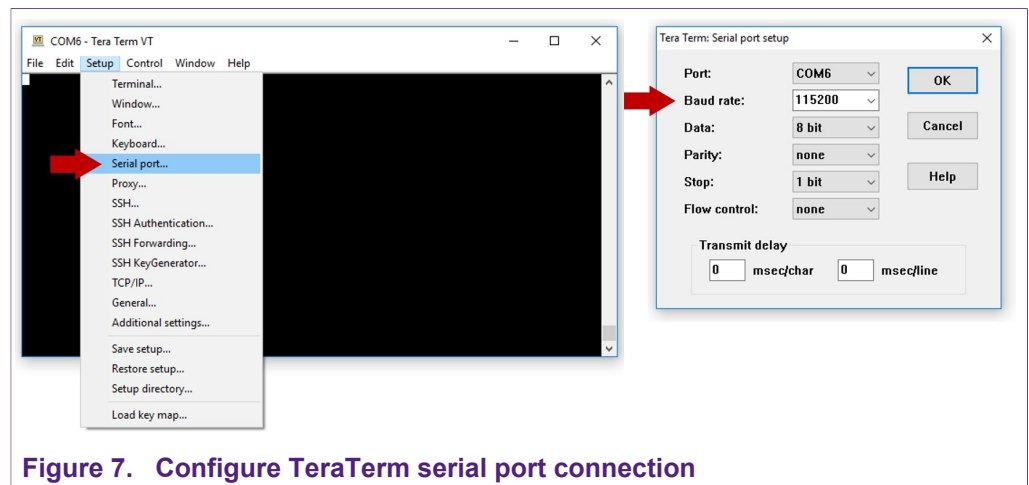

Figure 7. Configure TeraTerm serial port connection
3. Go to Setup > Serial Port and configure the terminal to 115200 baud rate, 8 data bits, no parity and 1 stop bit and click OK as shown in Figure 7